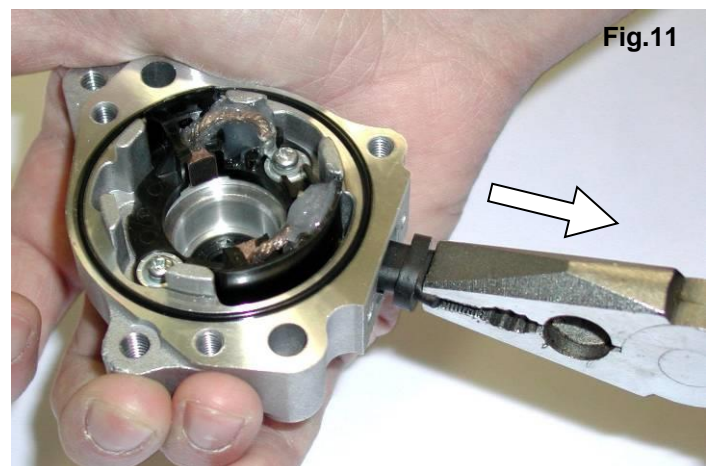

Fig.11
- REMOVE THE LITTLE RUBBER CAP "F" (see Fig.11).
- REMOVE THE SILICON FROM BRUSHES WITH A SCREWDRIVER (see Fig. 11)